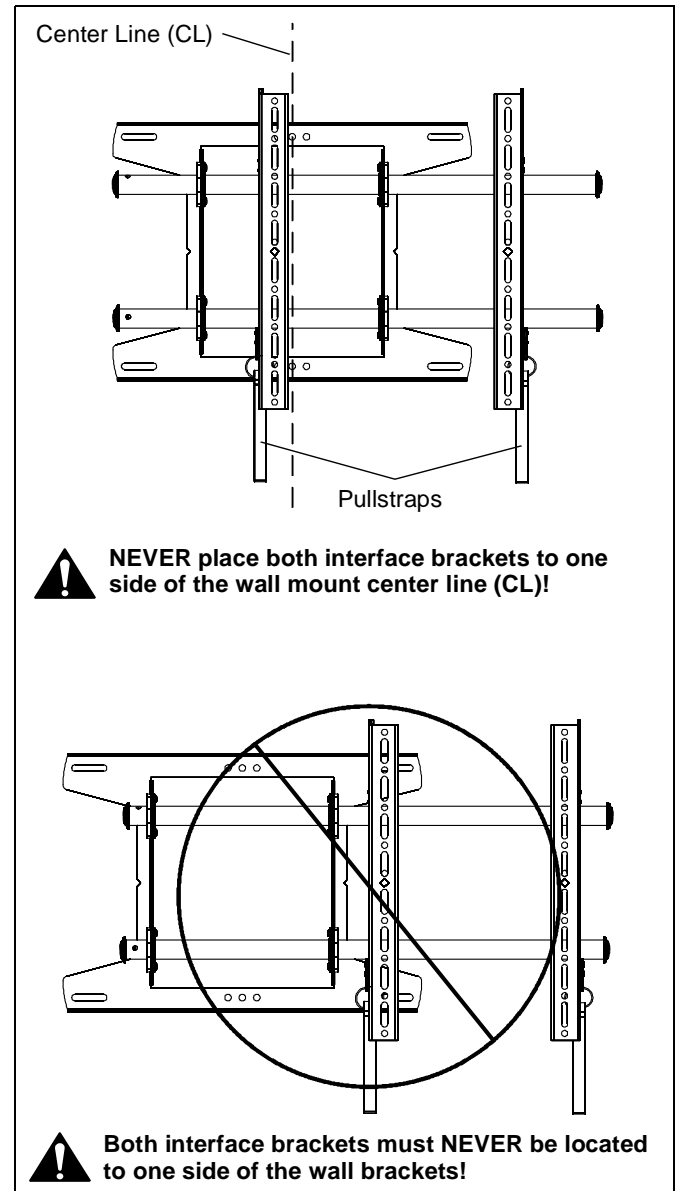

Figure 8
1. Adjust Velcro® pull strap (if necessary) so it does not extend beyond bottom of screen. (See Figure 8)
NOTE: Do NOT allow both interface brackets to be located on same side of wall bracket. (See Figure 8)
NOTE: NEVER place both interface brackets to one side of the wall mount center line! (See Figure 8)